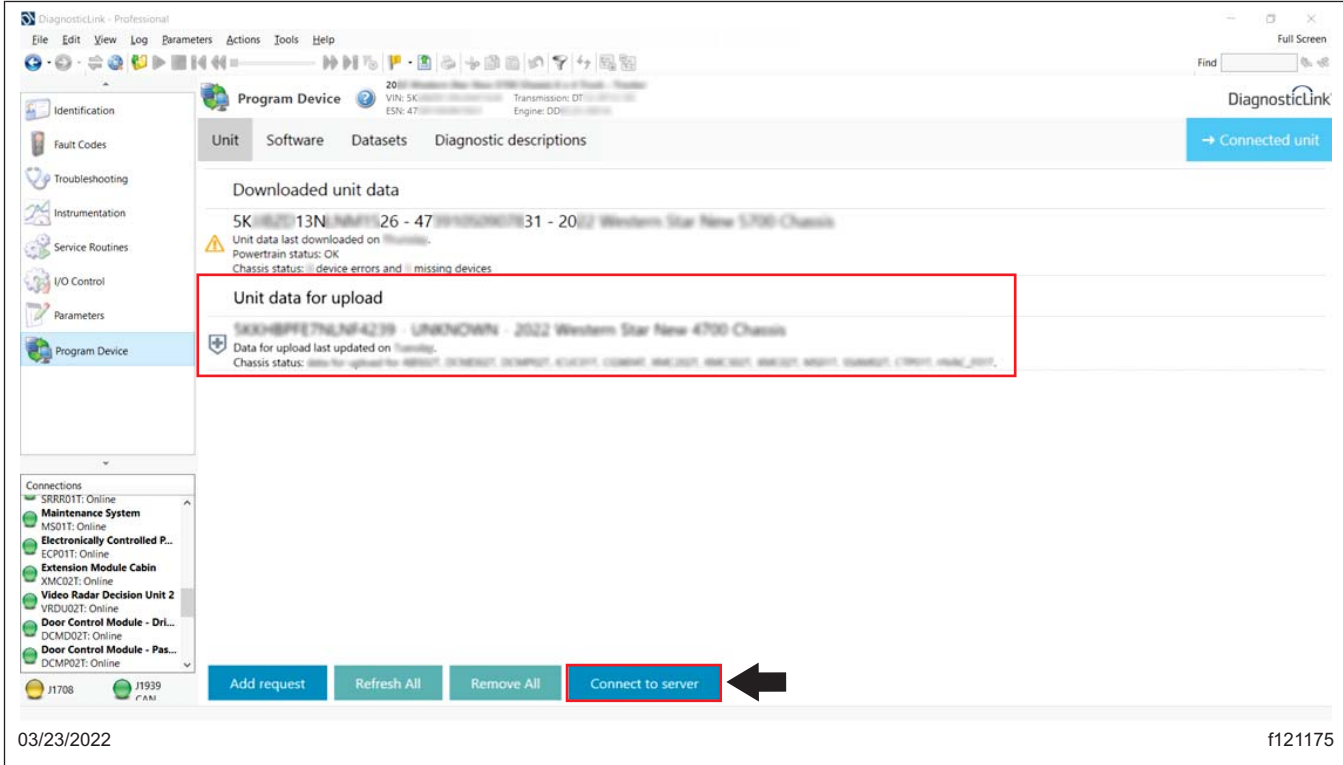

Fig. 7, Uploading the New Parameters
- The information corresponding to the VIN should appear under 'Unit data for upload.' Select 'Connect to server' to upload the new parameters. See Fig. 7.